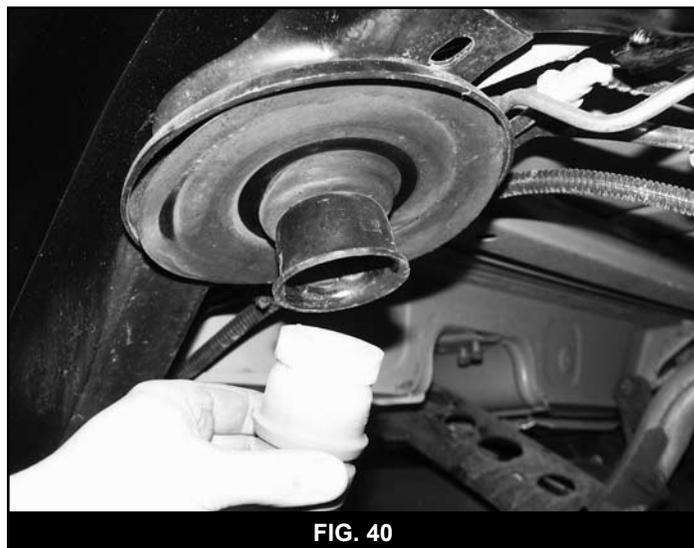

FIG. 40
20. Remove the rubber bump stops from the frame (Fig 40).